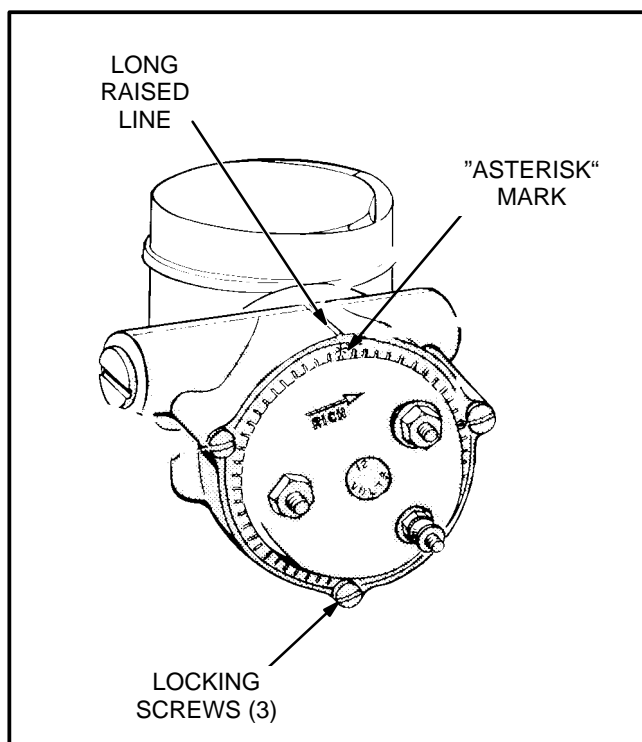

FIGURE 6-5. ELECTRIC CHOKE
1. For better starting in cold weather, loosen the three cover screws (Figure 6-5) and rotate the cover clockwise (richer) so that the asterisk (*) is one or two lines past the line on the housing and re-tighten the cover screws.
Choke Adjustment for Combination Carburetor: If the engine is equipped with a combination carburetor, see that the gasoline shut-off valve is closed. The electric choke (Figure 6-5) must be adjusted so the adjustable cover is turned 10 to 12 notches counterclockwise from the asterisk (*) mark. When properly adjusted, the electric choke will be completely open even at very low temperatures.